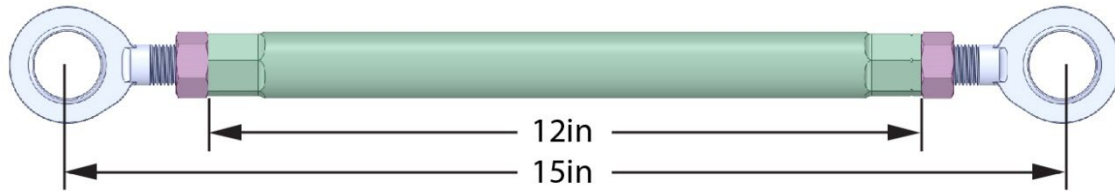

Figure 17: Push rod
- Locate and assemble the push rod; refer to figure 17.